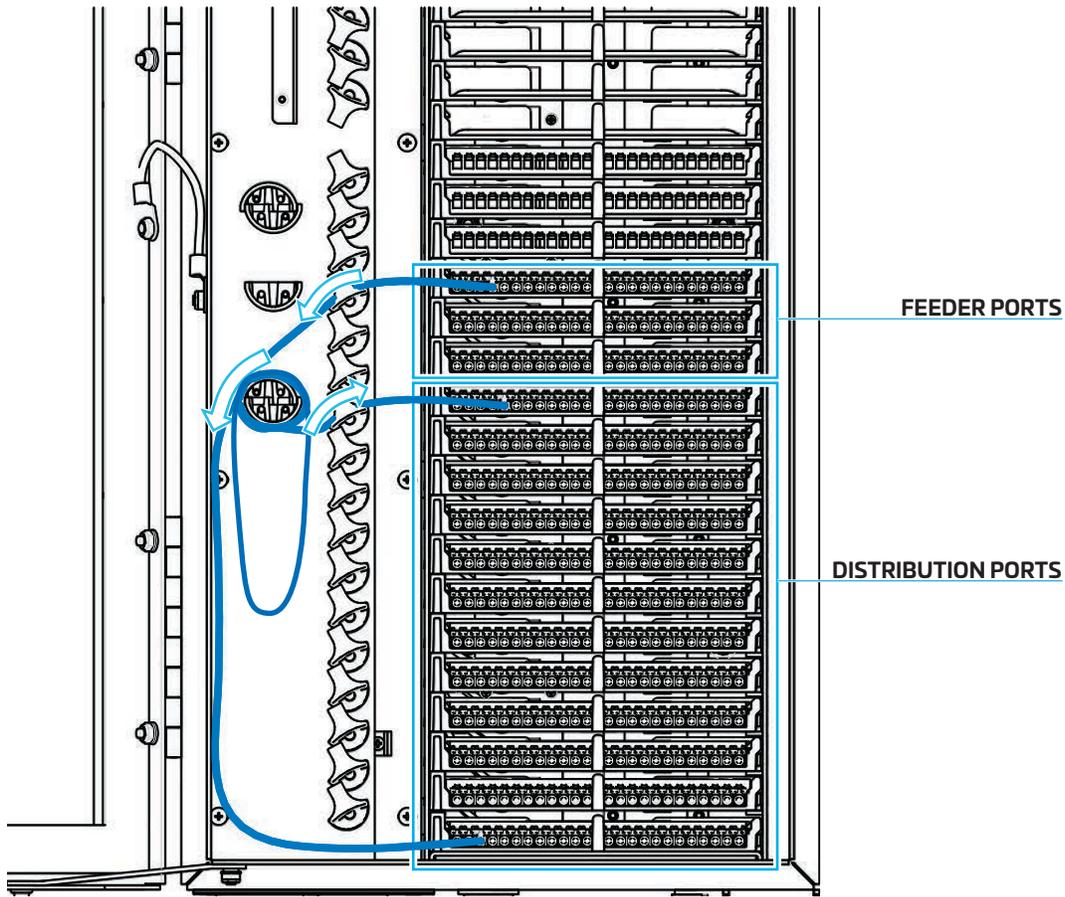

Figure 22. point to point connections
5. The drums in the routing zone can be used to take up slack. Route and dress the fiber slack as shown in Figure 22.